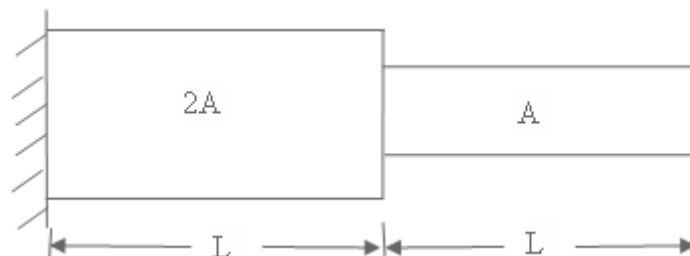

Figure 8:
8. Find the natural frequencies of longitudinal vibrations of the cantilevered stepped shaft of areas  $A$  and  $2A$  and of equal lengths ( $L$ ), as shown below figure 8 using consistant mass matrix approach. [16]